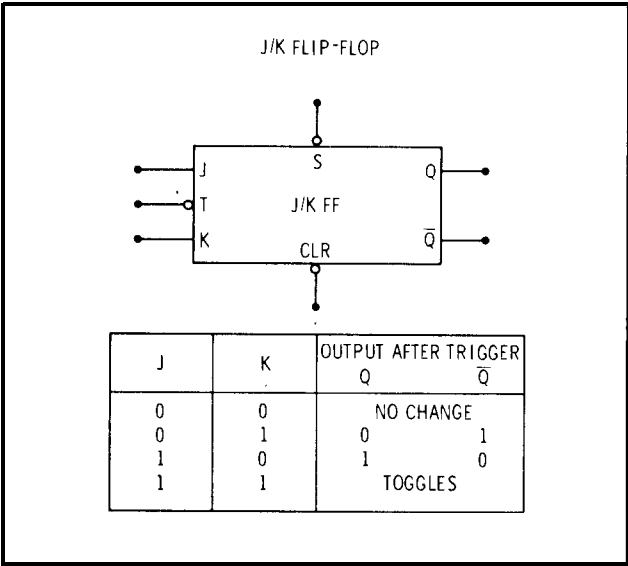

Figure 8-8. J/K Flip-Flop
**8-50. J/K Flip-Flop.** Figure 8-8 shows a typical J/K flip-flop. The trigger-(T) input is activated by a low-going signal as indicated by the circle on the symbol. Flip-flop response is determined by the values of the J and K inputs at the instant that a low-going signal is applied to the trigger input: